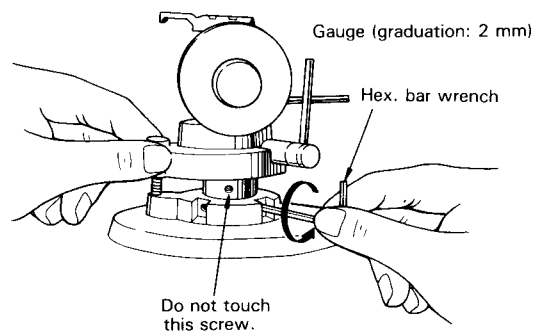

Fig. 17
7. Hold the arm base with your left hand as shown in Fig. 17 and loosen the 2 tonearm height adjusting screws with the hex. bar wrench supplied.